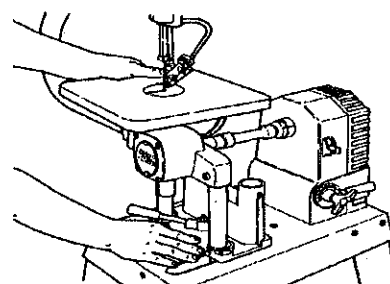

Fig.G-13
13. Unlock the carriage. Then line up the notches on the drive shaft hub with the ridges inside the coupler. With one hand on the carriage and another on the Jigsaw, slide the carriage so that the coupler on the Jigsaw fits over the drive shaft hub (31). See Fig.G-13.
14. After you have securely connected the Jigsaw to the Power Station with the coupler, lock the carriage (21) by turning the handle (19) to the right.
15. Plug in the Power Station and insert the safety key (35). You are now ready to operate the Jigsaw with the Power Station.